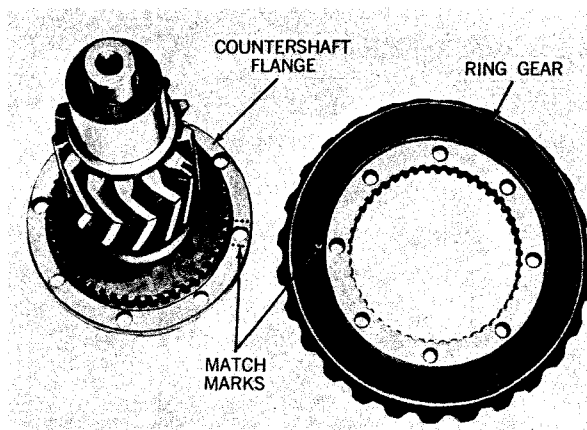

Fig. 129.
2. If match marks (see figure 129) are not present, make marks to assure correct position of ring gear on countershaft flange.